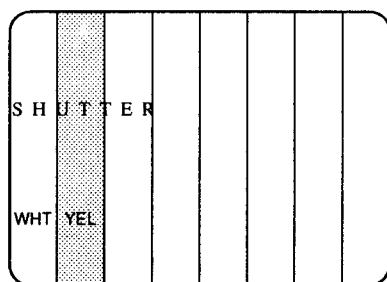

Fig. 5-1-6
- Adjust CT1 so that the left edge of the **U** character of the **SHUTTER** word becomes a divider line of the White and Yellow of the Colour Bar as shown in Fig. 5-1-6.